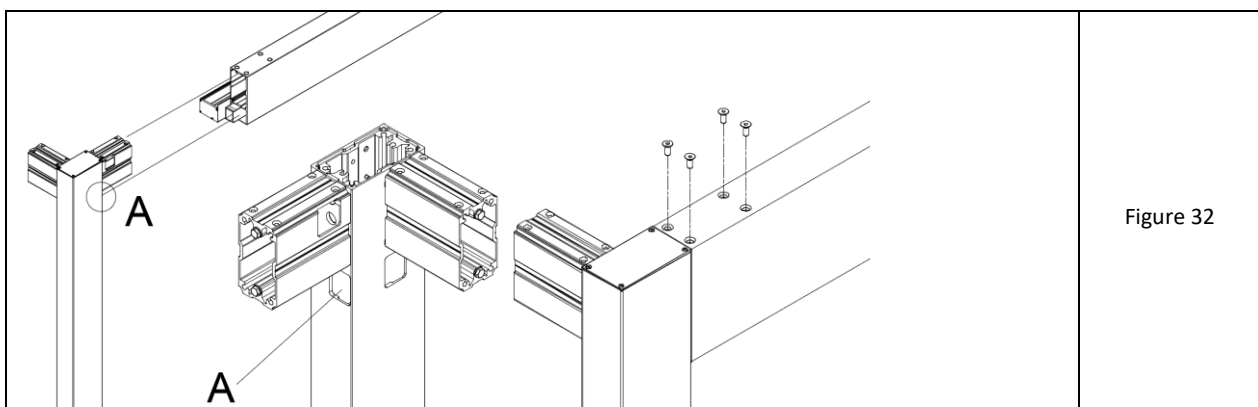

Figure 32
12. In the horizontal position, insert the posts equipped with appropriate feet into both ends of the second lengthwise beam. The lower drains in the lengthwise beam enter the square window (A) in the post (on the narrower side) below the bone. The bone at the top of the post should be inserted into the upper chamber of the beam (fig. 32-left).
13. Screw the corner from above using 4 conical screws with M8x20 Allen socket (fig. 32-right).